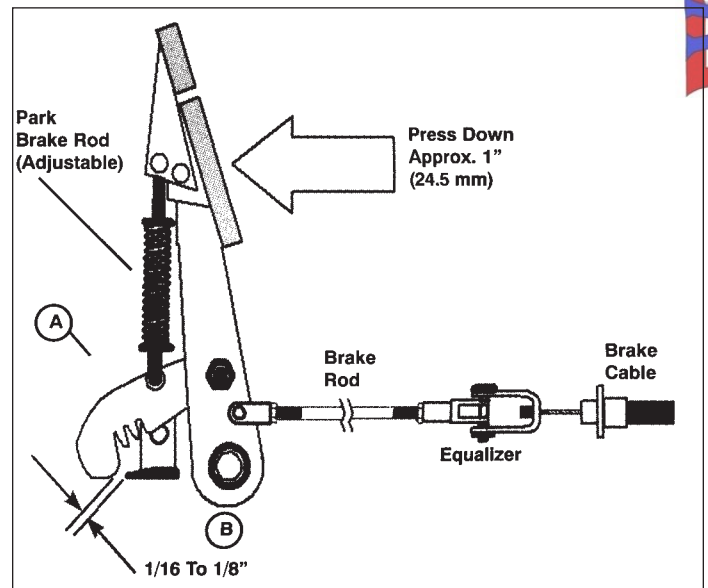

Figure 5-5. Mechanical Brake Adjustment
3. Remove brake cable from equalizer (Figure 5-5).
5. In order to install new cables, it may be necessary to loosen equalizer on brake rod (Figure 5-5). Note position of jamnut on equalizer and mark with tape. Loosen jamnut on rod end to provide slack to brake cable.
9. Tighten nut on brake rod (Figure 5-5) to position marked in step 5. With vehicle stationary, depress the brake pedal and check for 1/4" pedal free travel before resistance is felt. Maximum pedal free travel should not exceed 2" measured from floor board to top of pedal. If adjustment is required, see *Mechanical Brake Linkage Adjustment* below.
1. Look through the floor opening while gently pressing on the brake pedal. The gap between the brake ratchet end and the brake ratchet pawl should be no greater than 1/16"-1/8" (Figure 5-5).